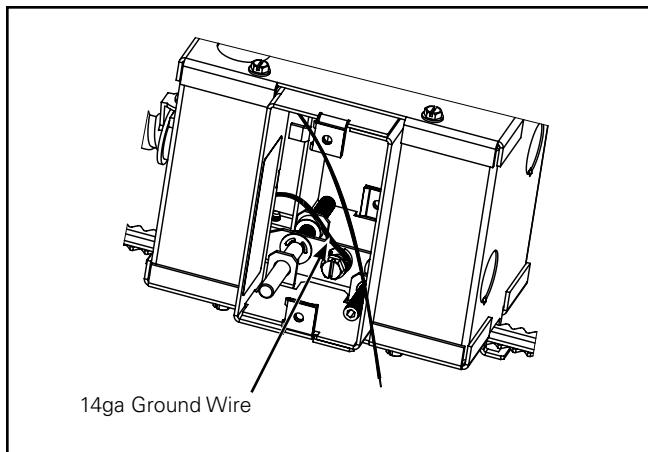

Figure 3.
3. Connect incoming 14ga ground wire from conduit to green ground screw/captive cup washer (Figure 3).